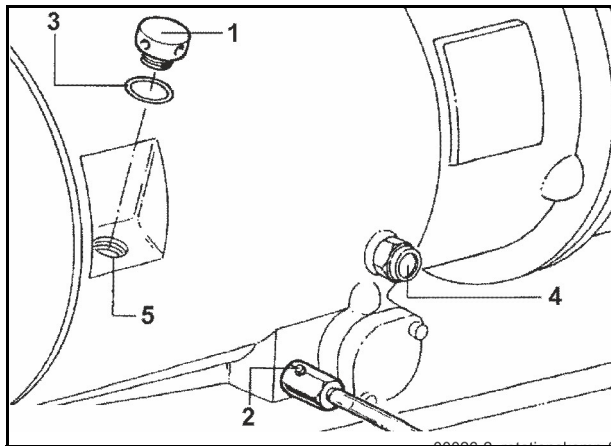

Fig. 362 Maintenance openings on compressor
- The sight glass (4) can be used to check the oil level (**Fig. 362**).
- Carefully open the filler plug **(1)** (**Fig. 362**) to equalise the pressure.